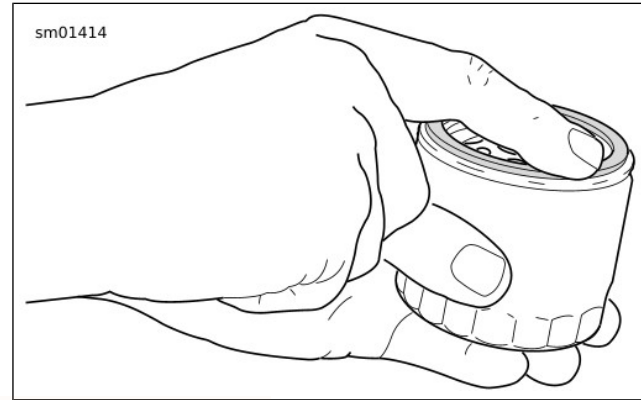

Figure 55. Lubricating New Oil Filter Gasket
9. Figure 55 Install **new** oil filter.